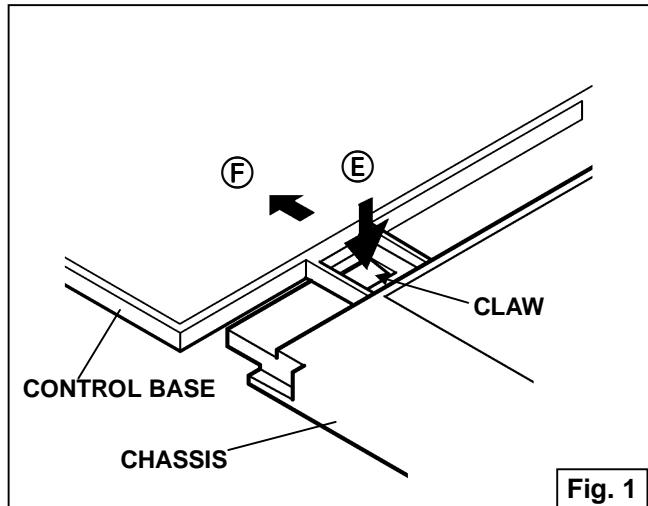

Fig. 1
1. As shown in Fig.1, while pushing down the claws marked **(E)**, remove the CONTROL BASE in the arrow direction **(F)** .